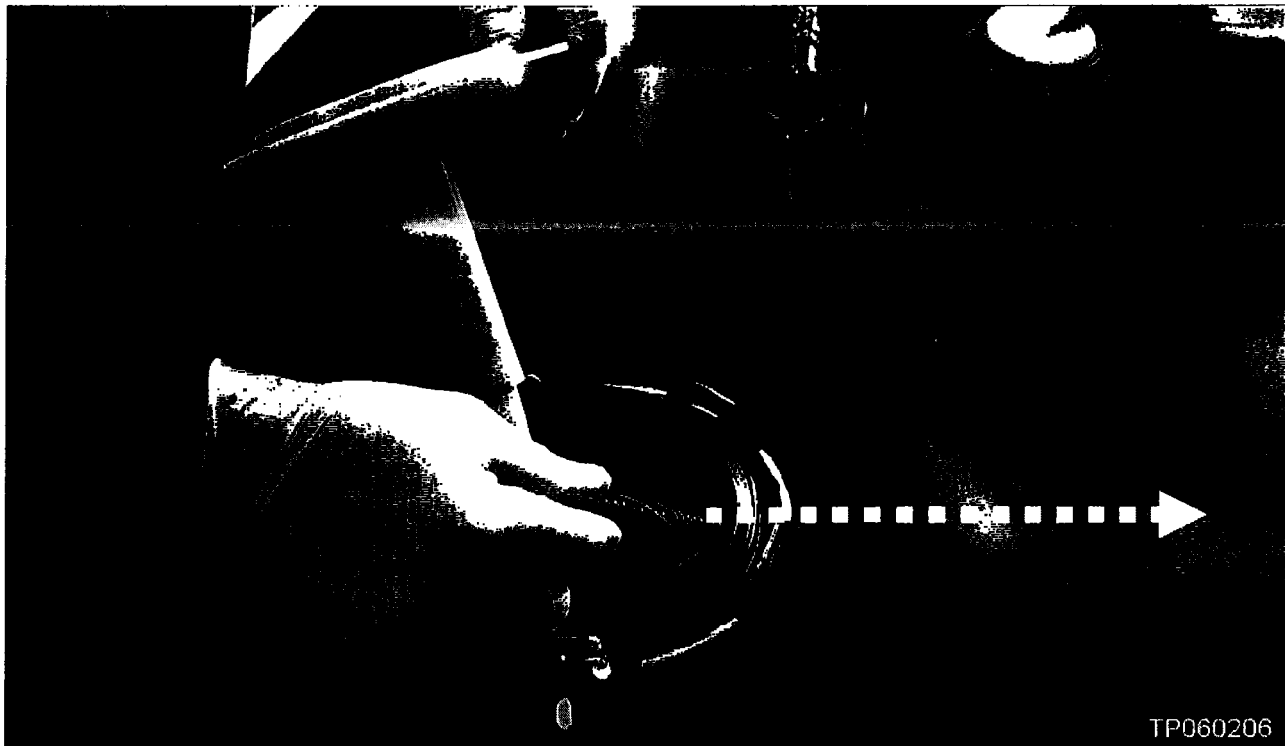

Figure 42
39. Install the sub fuel level sensor half way, then feed the fuel line across to the other side of the new tank (see Figure 42).